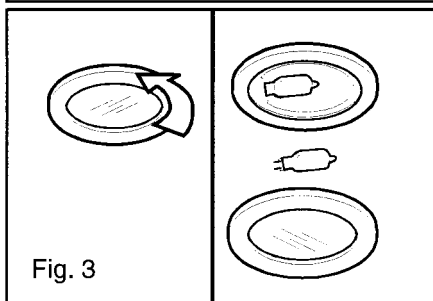

Fig. 3
**Replace Lights For Models HDW, HGSW, HCSW30/36/42 (Fig. 3)**
- Using a flat edge from a screwdriver or equivalent tool pry loose the lens cover as shown in Figure 3.